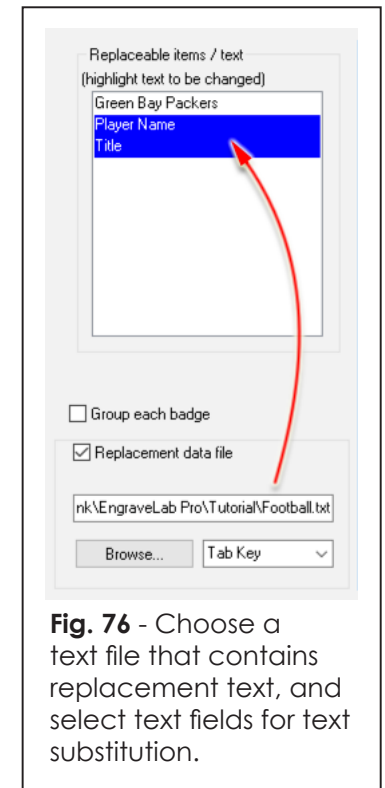

Fig. 76 - Choose a text file that contains replacement text, and select text fields for text substitution.
13. In the **Replaceable items / text** list, click each item for which text replacement should be applied (Fig. 76).